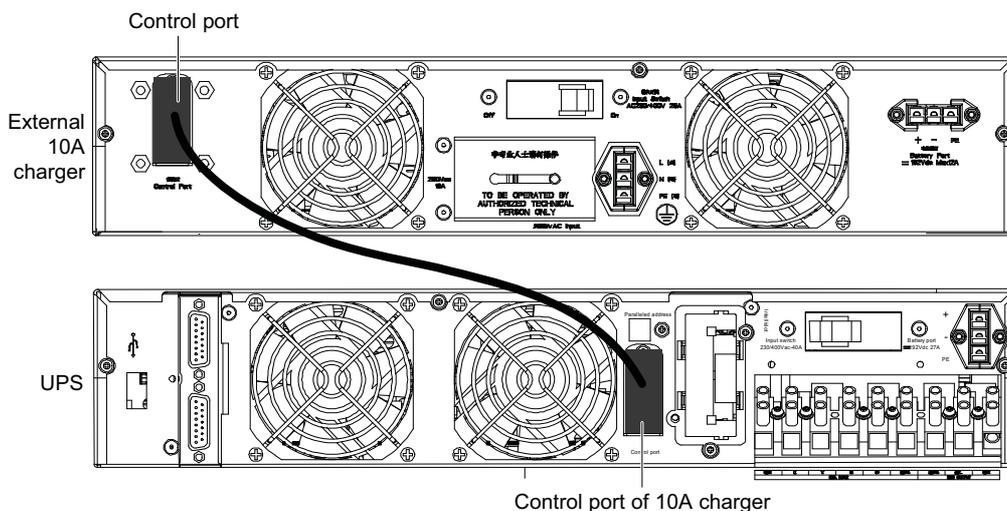

Figure 2-22 External 10A charger cable connection
1. Take out the external 10A charger cable (DB9) from its package, remove the protective cover of the control port on the rear panel of the external 10A charger (see Figure 2-22), and insert one end of the cable into the control port.
2. Remove the protective cover of the control port on the rear panel of the UPS, and insert the other end of the cable into the control port of 10A charger, as shown in Figure 2-22.